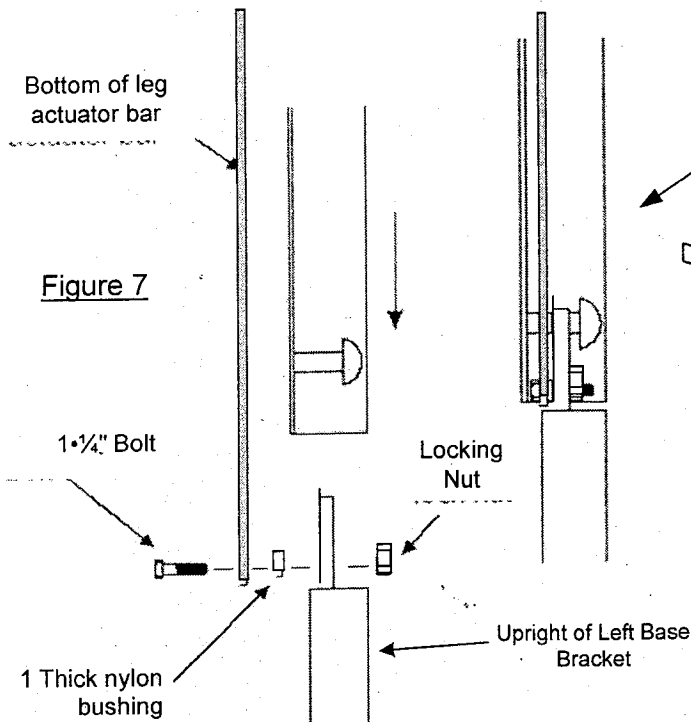

Figure 7
18. Attach other end of Leg Actuator to Floor Base Assembly as shown in Figure 7 and snug tighten.